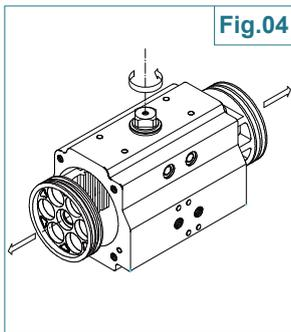
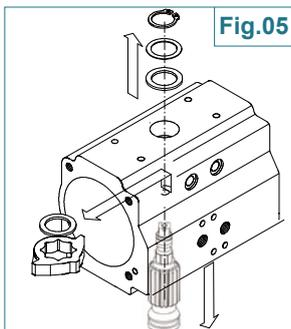

Fig.04
Fig.05
D.Pistons disassembly (Part No.07), Fig.04:
- Holding the body (06) in a vice or similar device, rotate the drive shaft (23) until the pistons (07) are released. **Caution:** Air pressure should not be used to remove the pistons from the body.
- Remove piston O-rings (13) by using a small screwdriver; remove the piston back (14) and piston head bearings (12). Discard bearings when replacing all soft parts.
E.Pinion shaft disassembly (Part No.23), Fig.05:
- Remove spring clip (03) carefully, using nap-ring pliers, remove external thrust bearing (05) and thrust washer (04).
- Apply downward force to top of pinion (23) until it is partially out of the bottom of the body when it is possible to remove the octi-cam (22) and internal thrust bearing (05), then push the pinion (23) completely out of the bottom of the body. If pinion does not remove freely, gently tap the top of the shaft with a plastic mallet.
- Remove top and bottom pinion bearings (20) and (24) and top and pinion bottom O-rings (25) and pinion top O-rings(19). Discard bearings (20) and (24), internal and external thrust washer (05) and O-rings (25) and (19) if replacing all soft components.